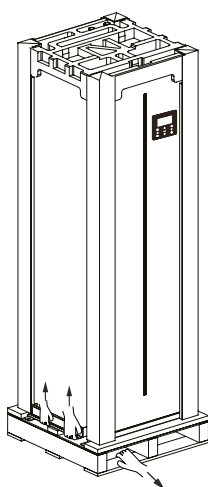

Fig.6-4
- Four people hold the sheet metal lifting machine, one of them pull the wooden base(Refer to Fig.6-4).